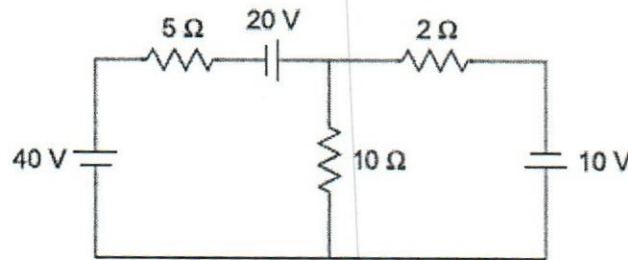

figure 01
- Determine the current passing through 10Ω resistor shown in figure 01. (Using Kirchhoff's laws) (12 Marks)